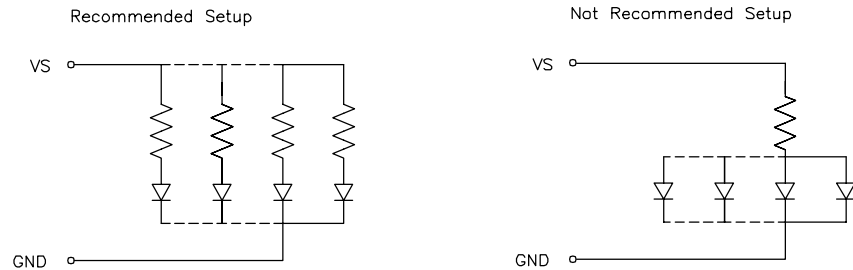

Fig. 9
5. When LEDs are mounted in a parallel configuration, there should be individual current-limiting resistors in series with each LED. Refer to below diagram (Fig.9) for an example of a recommended set up.